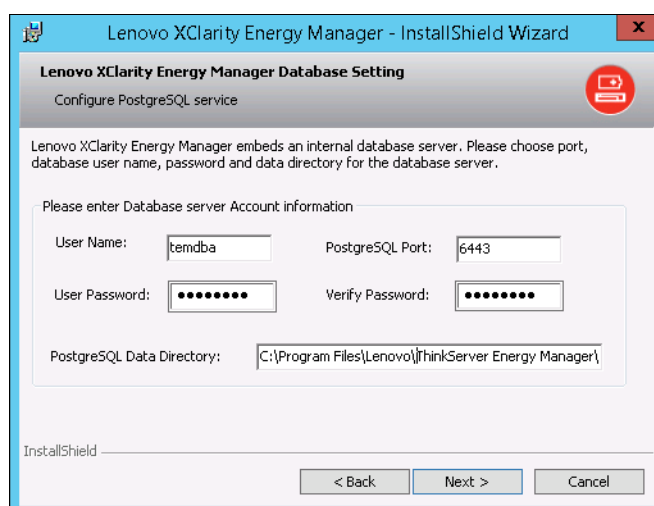

Figure 7-32 Embedded database installation
11. Energy Manager has an embedded database server as shown in Figure 7-32, you can set the database attributes including username, an open/unused port, password and installation path. Once set, click **Next**.